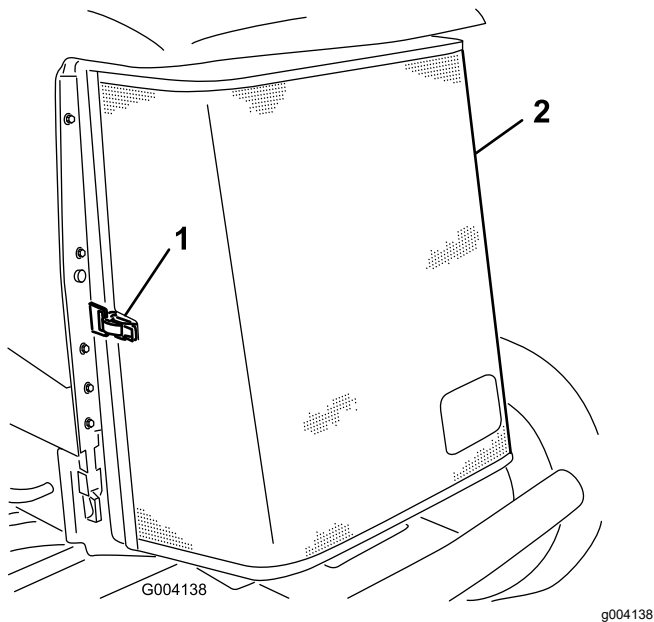

Figure 93
3. Unlatch the clamp and pivot open the rear screen (Figure 93).